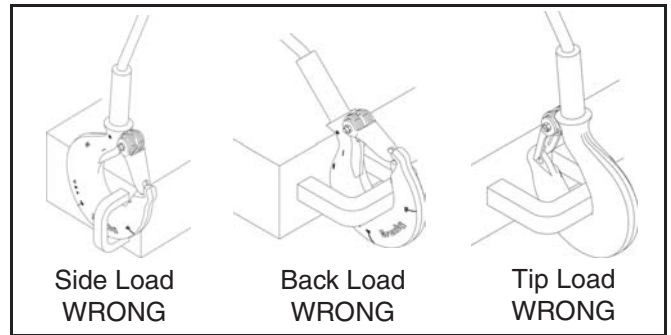

Figure 2
- Never side load, back load, or tip load a hook (See Figure 2).